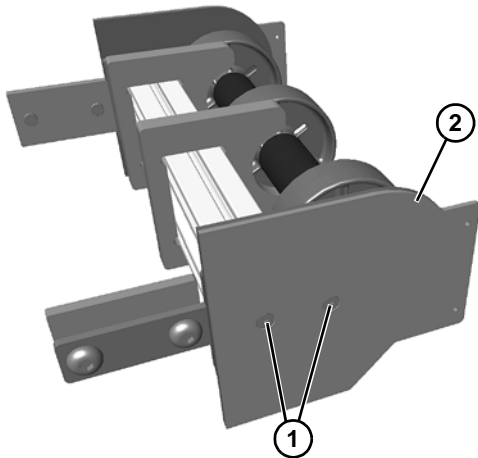

Figure 92
7. Remove two flat head screws (**Figure 92, item 1**) on cover plate (**Figure 92, item 2**) on each side of idler tail assembly.